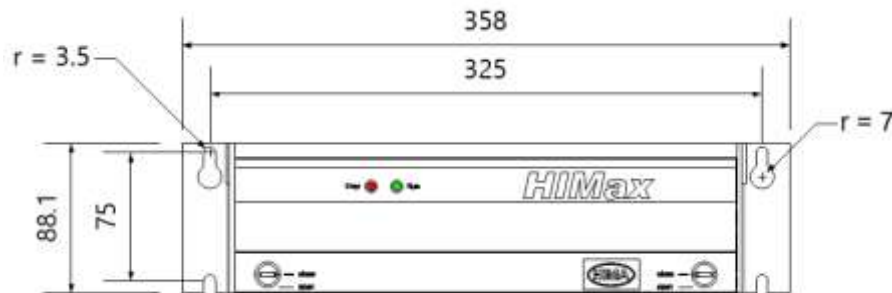
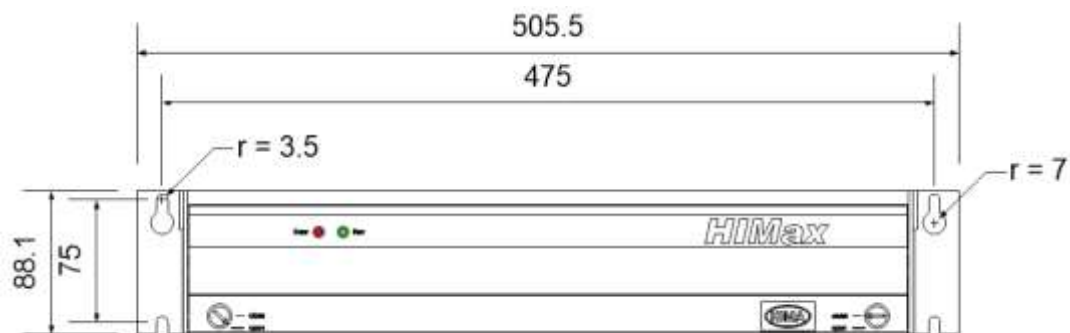
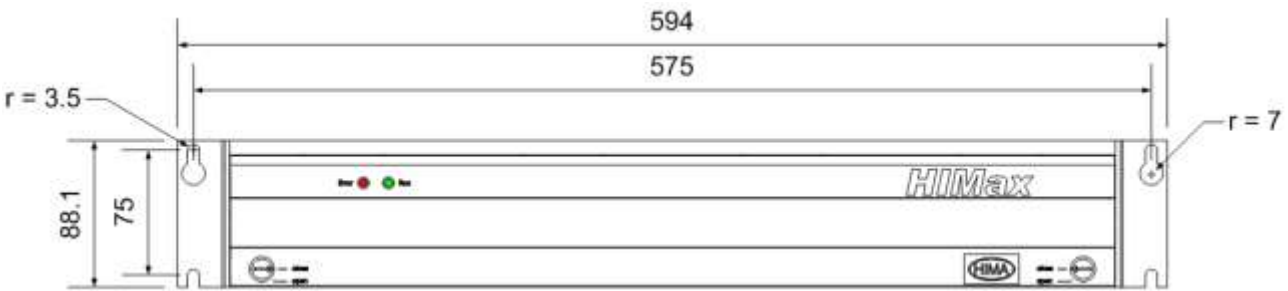

Figure 7: Dimension Drawing for System Fans 10 01 and 10 03
Figure 8: Dimension Drawing for System Fans 15 01 and 15 03
Figure 10: Dimension Drawing for System Fans 18 01 and 18 03
2. The spaces between the threaded holes are given in the dimension drawings, see Figure 7, Figure 8 and Figure 10.